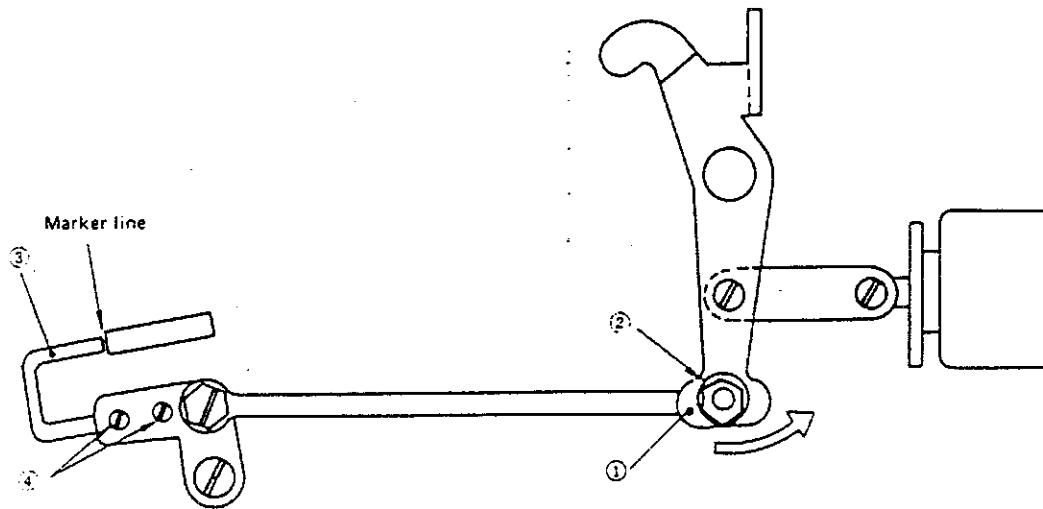

Fig. 27
If thread take-up picker ③ (Fig. 27) enters the bobbin case too deeply at the time of thread trimming, the bobbin does not turn, and the bobbin thread is cut too short, causing stitch skipping at the start of sewing. On the contrary, if the entrance of the thread take-up picker into the bobbin case is not enough, the needle thread slips off the tip of the thread take-up picker at the time of thread trimming. As a result, the thread remaining on the needle after trimming becomes too short, causing the thread to slip off the needle.
With clutch disc ① (Fig. 27) pushed in the direction of arrow (to the right), make adjustment so that the bobbin thread can be pulled out smoothly.
After loosening screws ④ (Fig. 27), adjust so that the tip of the thread take-up picker (bobbin winder trip latch) is positioned as shown in Fig. 28. To adjust the entrance of the thread take-up picker into the bobbin case, move stopper ② (Fig. 27). After completion of the above adjustment, retighten the nut of the stopper. The standard position of the stopper is such that, with the clutch disc pushed to the right, the end of the picker is in parallel to the hook driving shaft.